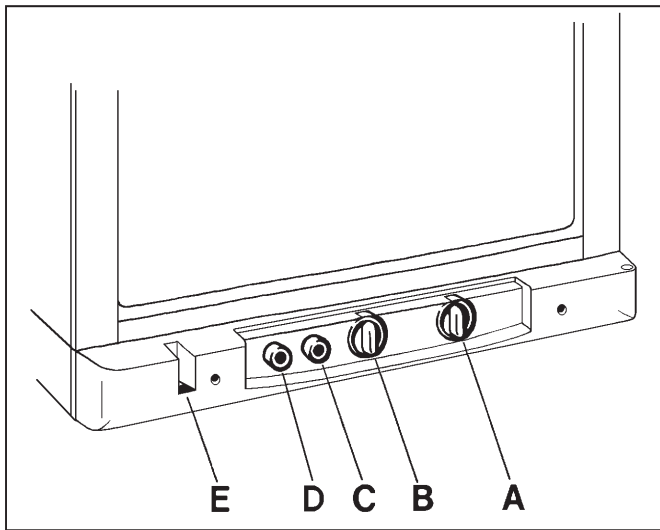

FIG. 1
The refrigerator can be run on either 240 V or LP gas. Changing between these modes of operation is carried out by means of control buttons positioned as shown in fig. 1.
The position numbers refer to fig. 1.
The position number refers to fig. 1. It will take several hours for the refrigerator to reach normal operating temperature. A thermostat controls the temperature of the main compartment of the refrigerator. The thermostat knob (B) should be set at 3-5. If a lower (colder) temperature is desired set the thermostat to a higher figure.